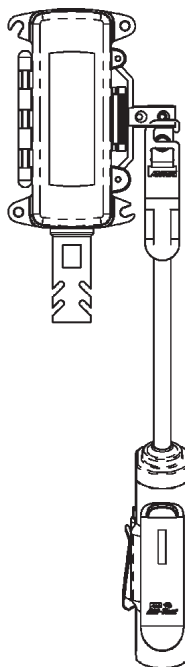

Fig. 33: Probe Clip Hanger used on an outside air sensor
- Outside air sensor measurement requires that the Blü-Test probe be placed next to the outside air sensor. This may require a ladder or extension pole. Hold the Blü-Test probe in place for 3 minutes or until the reading stabilizes. The Probe Clip Hanger makes this easier by holding the probe for you (Fig. 33).